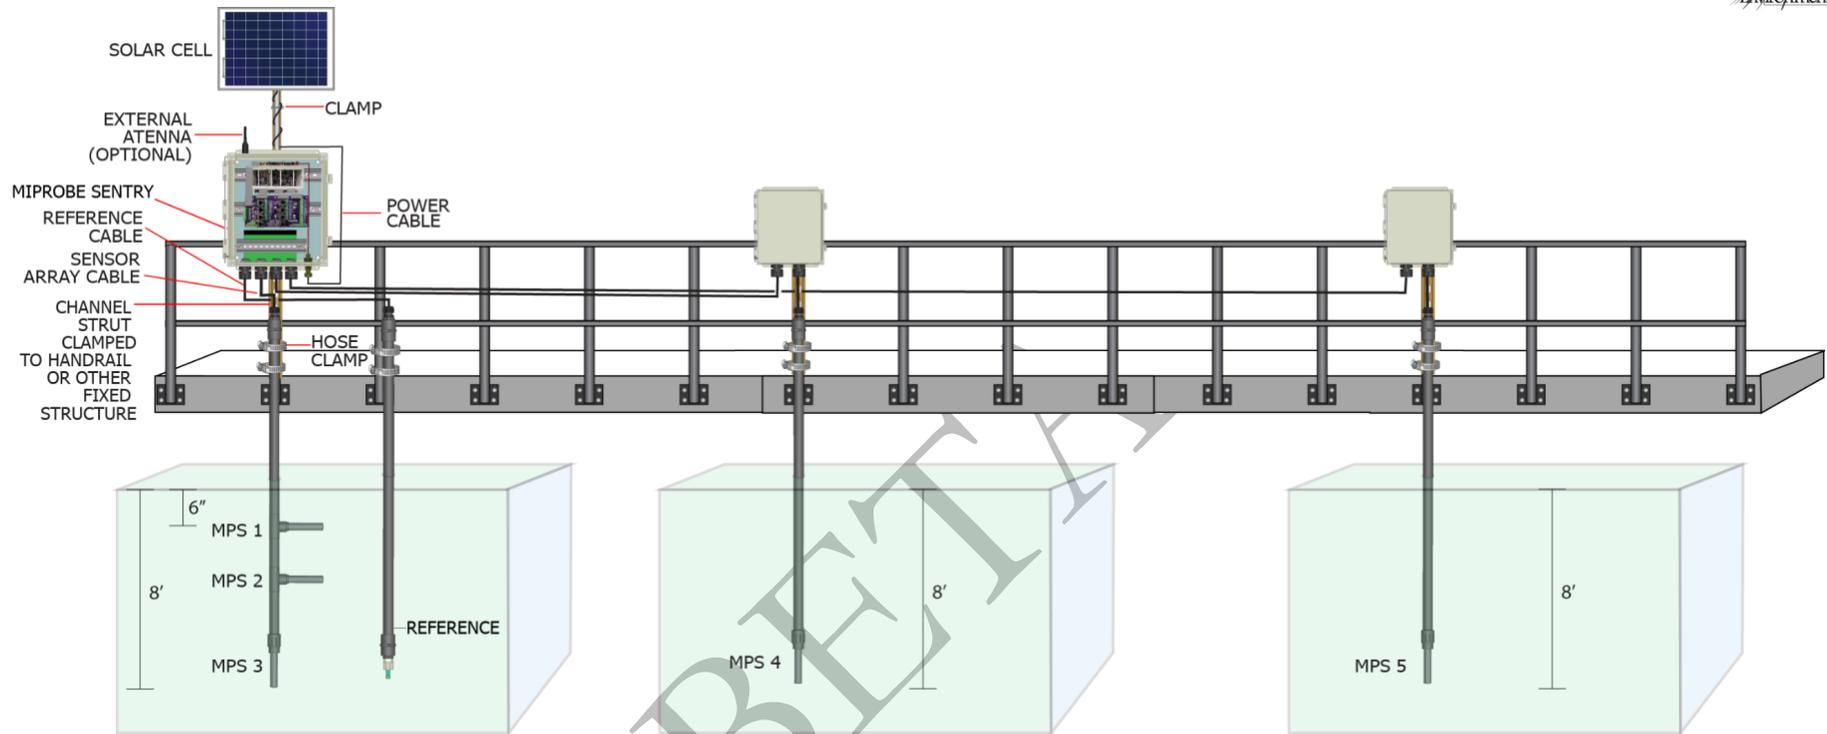

Figure 15: Horizontal Sensor Array Configuration
2. Horizontal MPS Array Configurations (Figures 15 and 16)